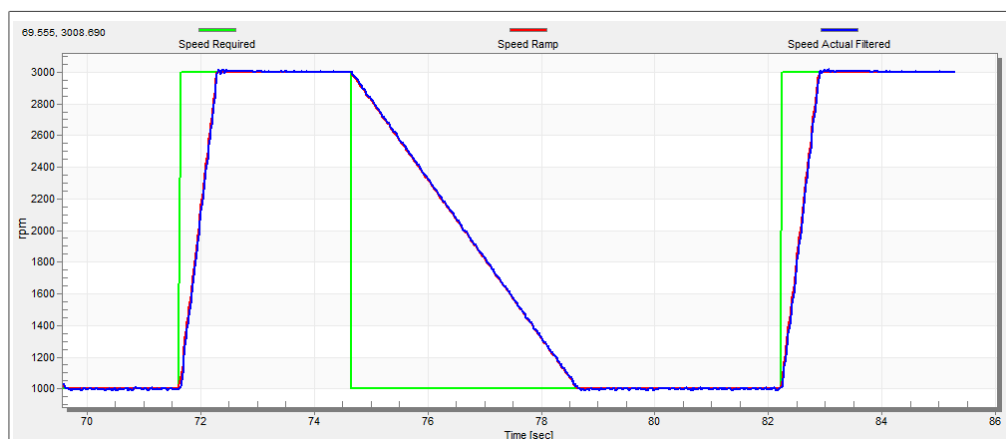

Figure 24. Speed profile
2. The increments are common for the scalar and speed control. The increment fields are in the “Speed loop” tab and accessible in both tuning modes. Clicking the “Update target” button applies the changes to the MCU. An example speed profile is shown in Figure 24. The ramp increment down is set to 500 rpm/sec and the increment up is set to 3000 rpm/sec.